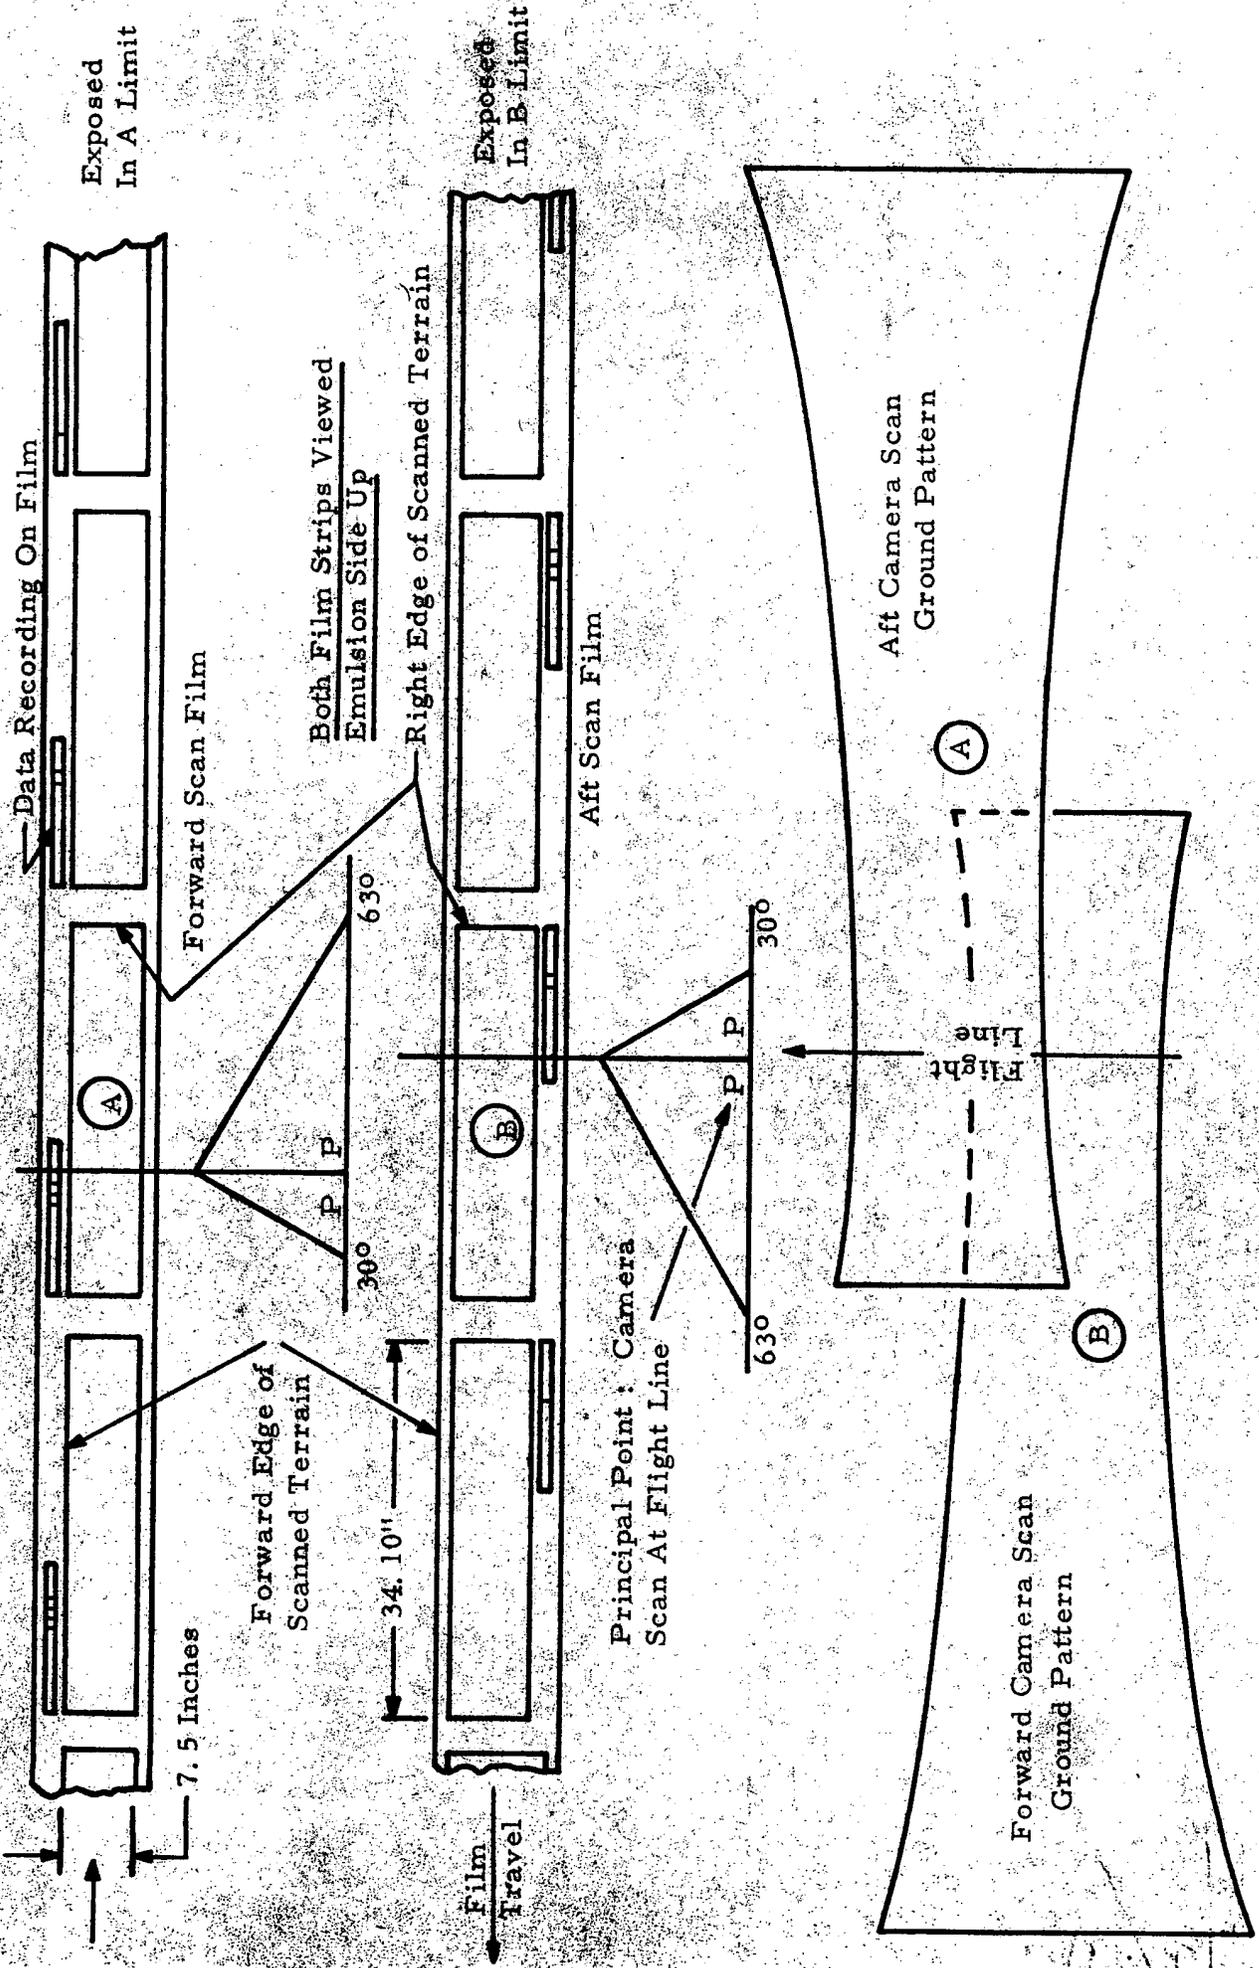

Figure 2-7. Type II Package Format Relationship To Ground Coverage Pattern.
- 2-17. Two typical Type II mission profiles are shown in Figure 2-6. Mission 1 shows continuous operation of the package for a segment of the entire mission. Mission 2 shows intermittent operation of the package for arbitrary portions of the mission. During initial ascent after refuel, turn HEATER switch to ON position and momentarily move the CAMERA switch to START TAPE position and release. This will turn on the camera heaters and the magnetic tape recorder. Specific flight instructions will determine when the CAMERA switch is to be turned to the ON position as shown in Figure 2-7.
- 2-23. Results of the Type II camera systems are panoramic photographs as shown in Figure 2-7. Photographs from the forward camera and corresponding photographs from the aft camera are aligned as shown also in Figure 2-7, along with the associated data information recorded alongside of each frame. Approximately 1320 good photographs with recorded data can be expected from a full film supply of 4200 feet from each camera. Film width is 7.95 inches. Individual frame dimensions are 7.5 inches by 34.100 inches.